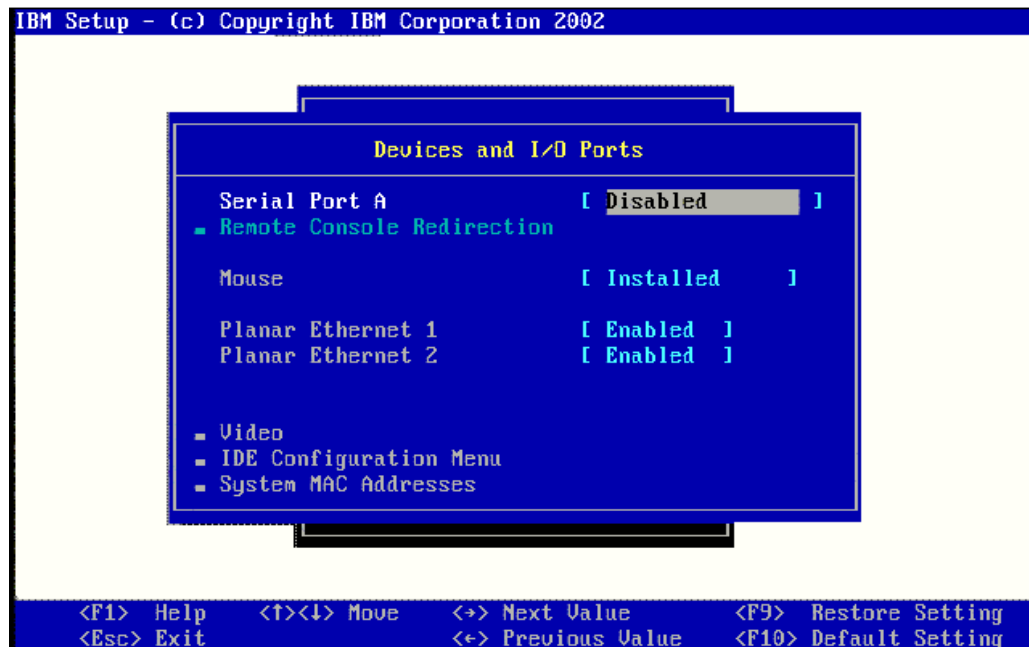

Figure 3-1 Settings for Ethernet adapters
- ▶ There are two Broadcom network cards in each blade server, each one connected to one network switch. Even if you do not have two network switches in your IBM @server BladeCenter, leave the unused network card enabled. Install both cards in Windows 2000 and disable it in the operating system. In the future, if you add another switch, you do not have to reboot the blade server and change the settings in the BIOS (see Figure 3-1).